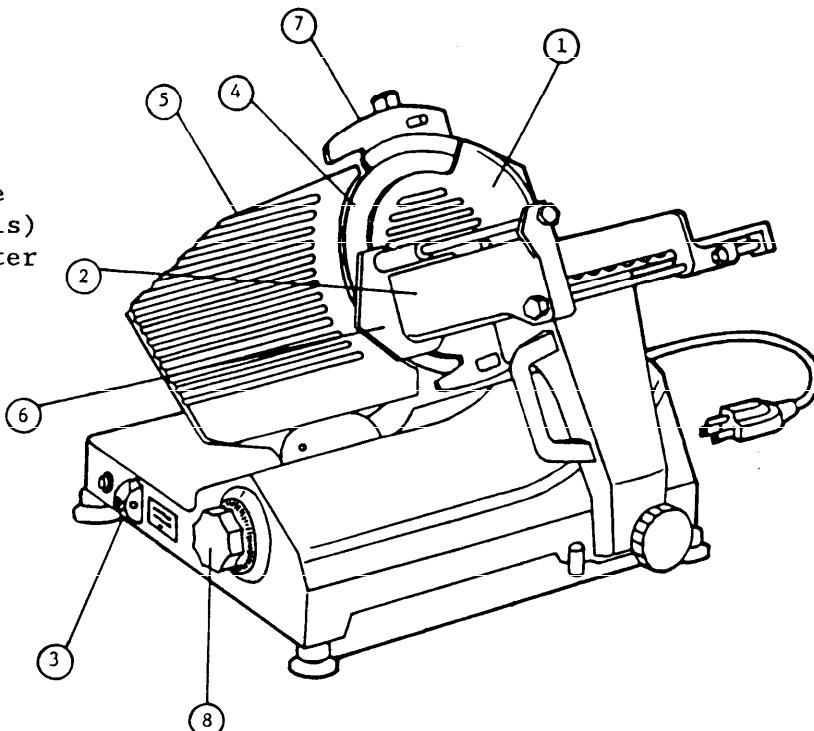

Figure 5
3.7.2 **Major Slicer Components.** Major slicer components include the motor and the components listed in Figure 5.